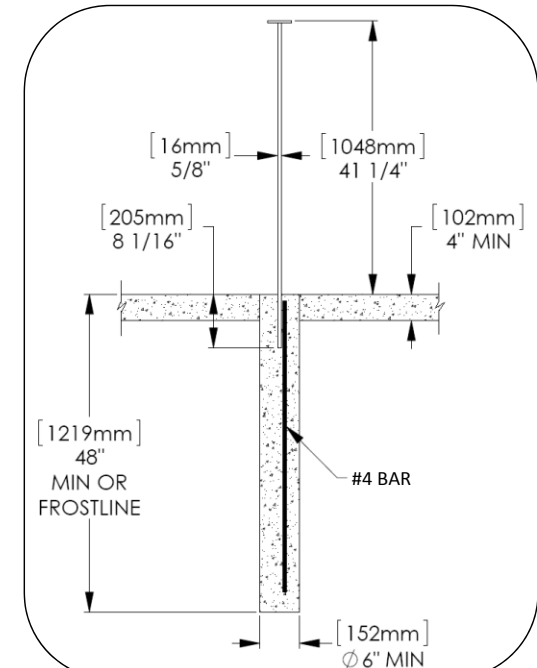

Fig. 5 – Embedded, pier foundation
1. Set the end post in place. Brace unit until concrete has set. See Fig. 5 for minimum pier footing recommendations.